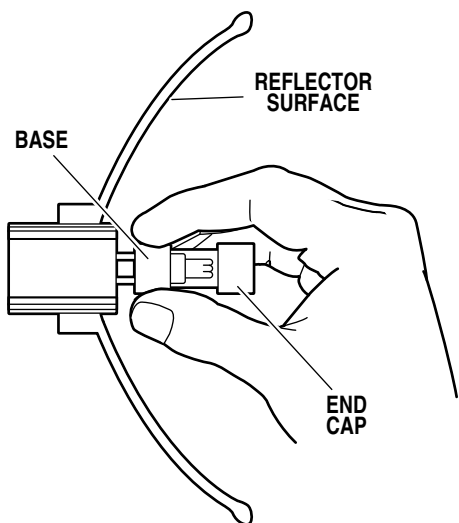

Figure 1-2.
b. Using caution not to touch the reflector surface, hold the bulb by the base and pull it out. See figure 1-2. Slightly working the bulb back and forth may aid in bulb removal.